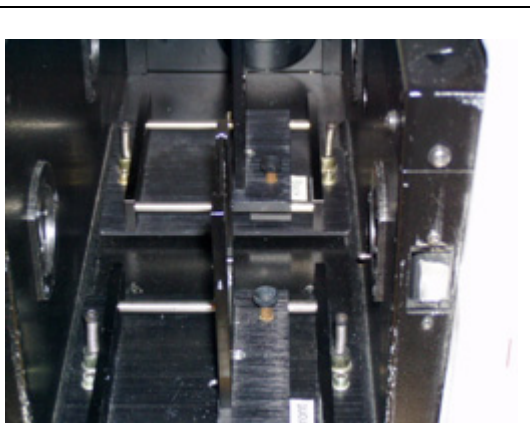

Figure 4
- 1) Install the aperture plate holders (Fig. 4) in the sample chamber, observing the labels on the base plate: Install the holder labeled “back” on the reference beam path, and the one labeled “front” on the sample beam path.